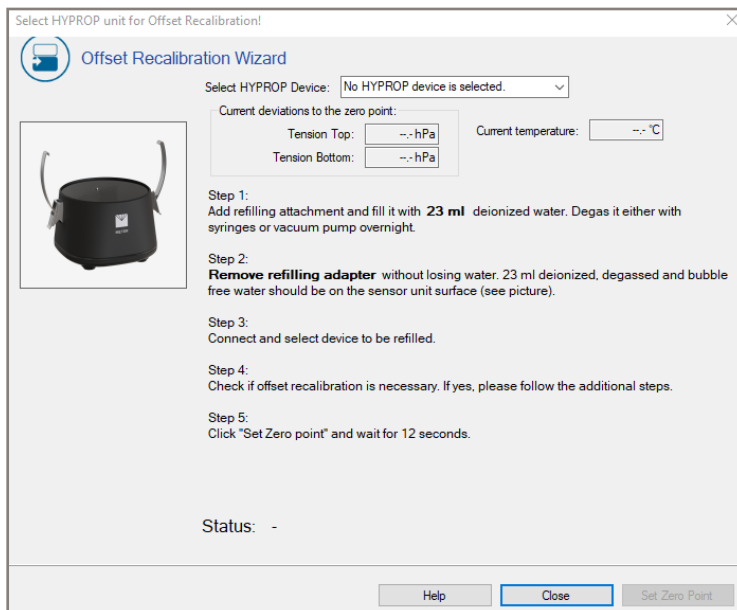

Figure 36 Offset Recalibration
6. Select **Offset Recalibration Wizard** and choose the device you want to process by using the drop down menu to select **HYPROP Device** (Figure 36).